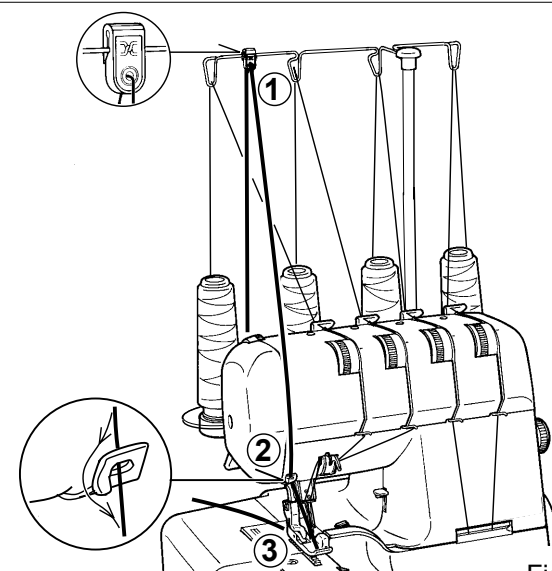

Fig. 1
1. Snap the detachable cord guide, in your accessory set onto the thread guide pole (Fig. 1).
2. Place a  $\phi$ filler $\phi$  cord, such as a crochet cotton, gimp, wool, knitting yarn, or shirring elastic at the rear of the machine spool pin. Pass the cord through the cord guides (1) and (2) and then through the left needle thread guide (3). See Fig. 1.